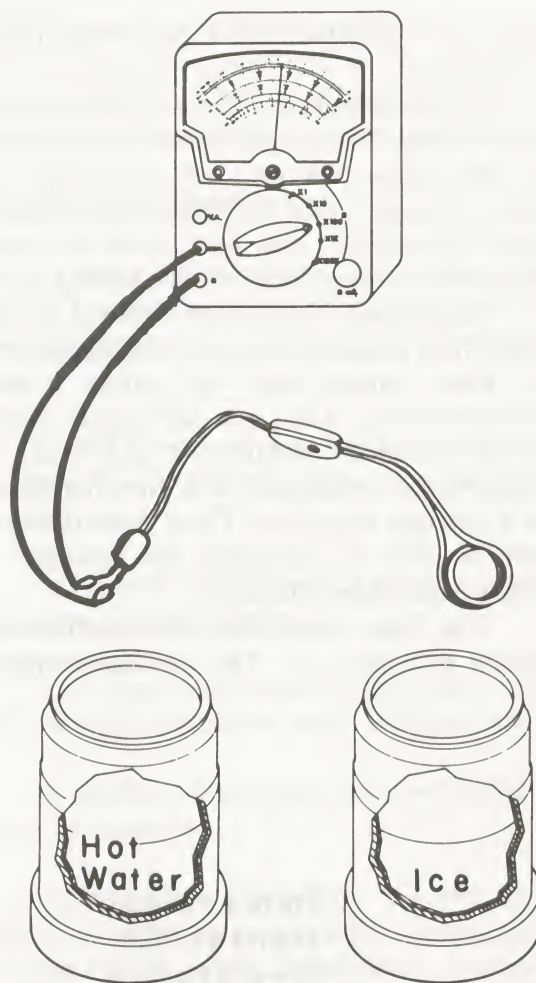

Figure 12.
2. *Measure the resistance of the immersion heater at the temperature of ice and at the temperature of very hot tap water.* Record your values. Did it change very much? See Figure 12. (Actually, if the immersion heater got very hot, its resistance would change by quite a bit. However, since it will burn out if operated out of the water, its surroundings always keep it from getting very hot, so this assumption of no change is approximately correct.)